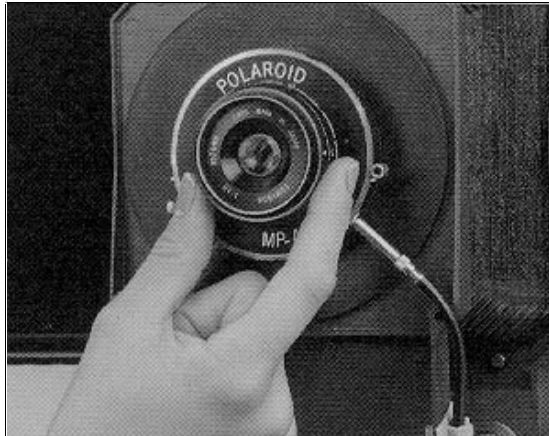

Figure 2-28. Attaching Lens to Shutter
- a. Carefully screw the lens into the shutter (figure 2-28).